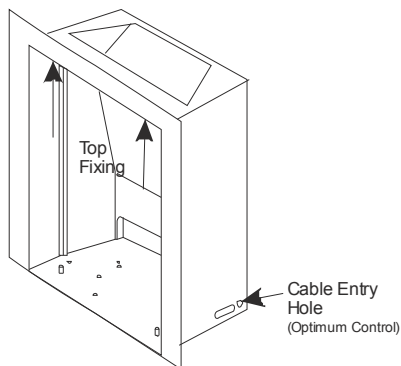

Figure 69
4. If fitting **Optimum Control Model** carefully drill a 20mm hole in the ceramic back on the right hand bottom corresponding to the round hole in the Thermobox side (see **Figure 69**). Feed the cable end with battery connection into the hole and allow approximately 500mm of cable inside the box. Route and fit the cable and wall switch.
6. Adjust the top two clamping screws to secure the top of the box into the fireplace opening (see **Figure 69**).